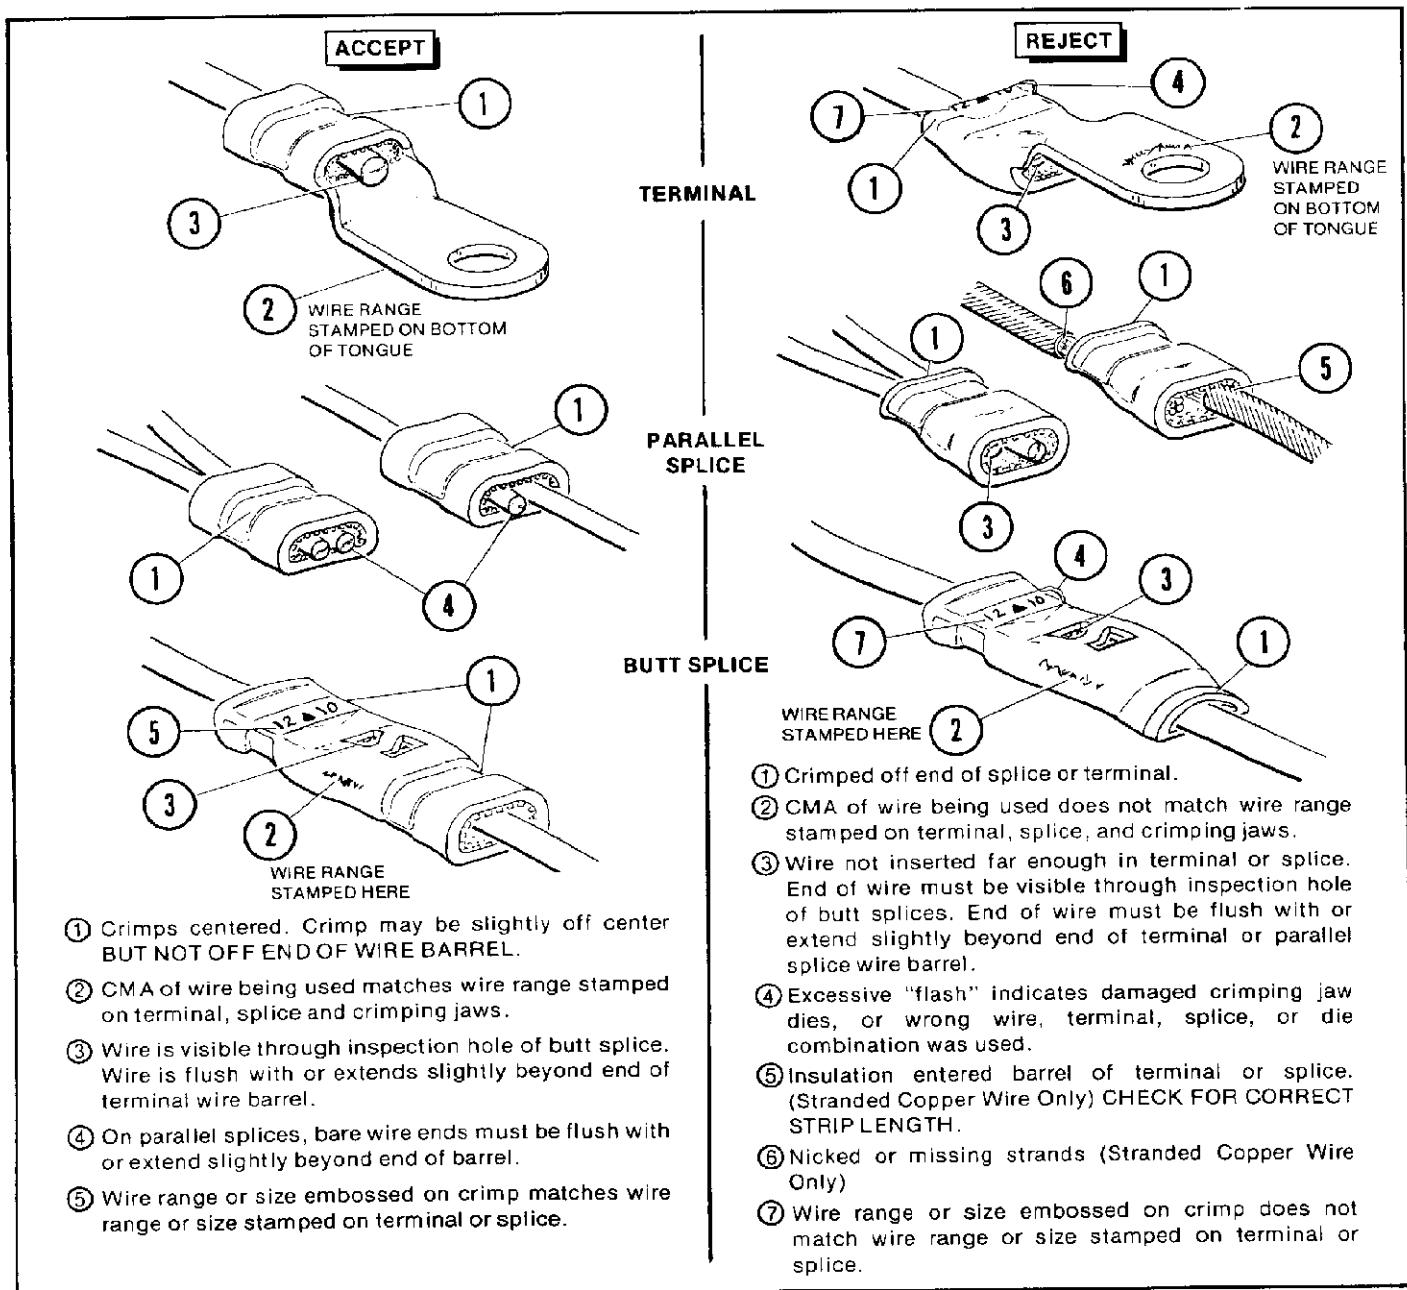

Figure 5
- Refer to section 3 and Figure 5 for crimp inspection.
Inspect crimped terminals and splices by checking the features described in Figure 5.